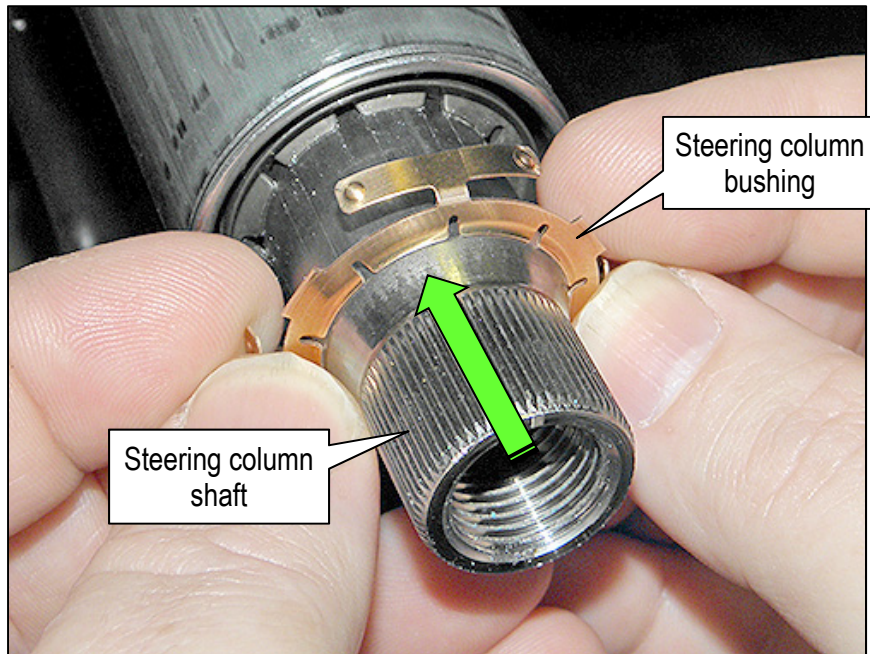

Figure 17
19. Slide the "BEARING ASSY-ST" (steering column bushing) onto the steering column shaft as shown in Figure 17.